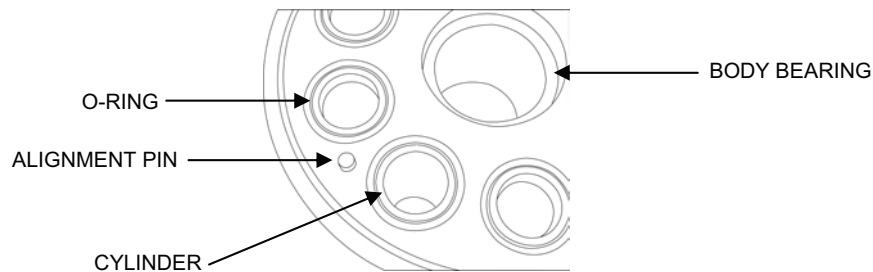

Figure 8. Piston Body Inspection.
5. Inspect and (if necessary) replace the body (see Figure 8).